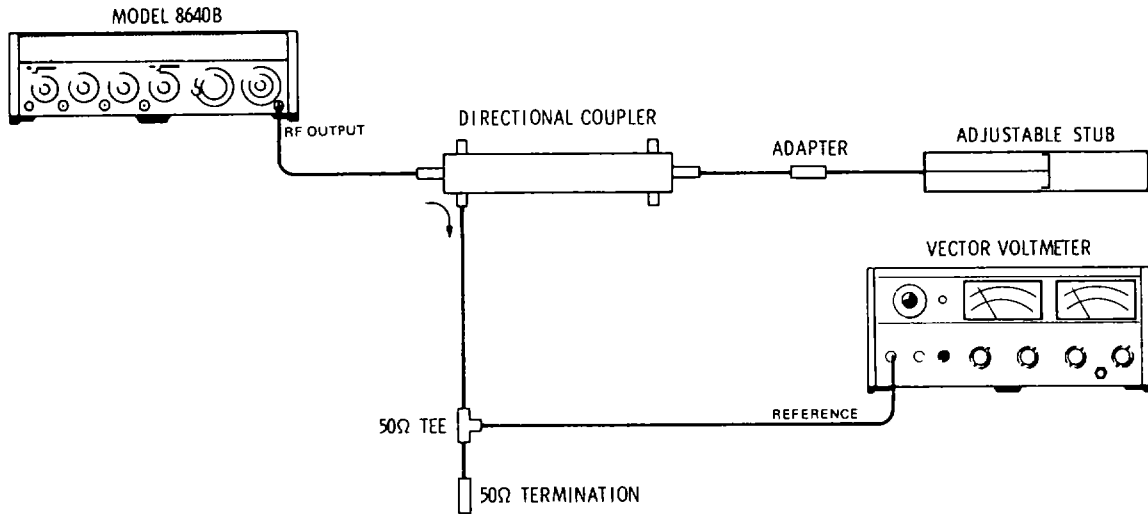

Figure 4-13. Output Impedance Test Setup (In Band).
1. Connect equipment as shown in Figure 4-13 after setting Signal Generator's controls as follows: